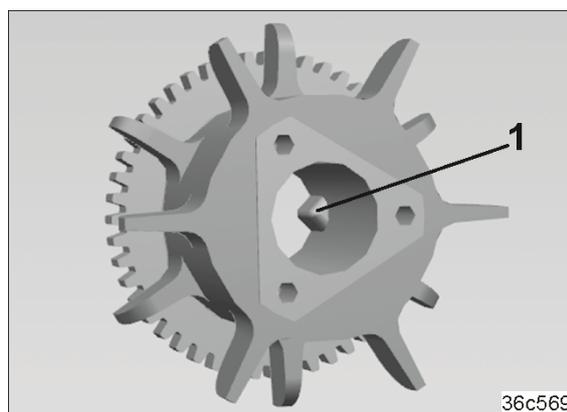

Fig. 231
9. Remove the triangular carriers (Fig. 231/1) of the bean seed metering wheels for those bean seed metering wheels that are to be switched off later on to create the tramlines.
The triangular carriers (Fig. 231/1) of the other bean seed metering wheels grip into the recess on the seeding shaft.